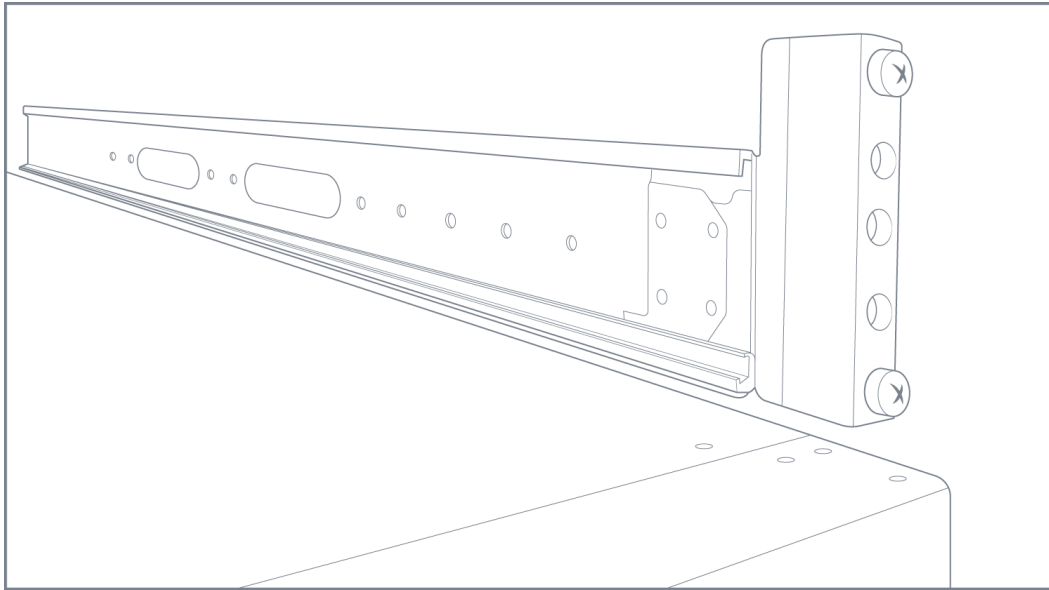

Figure 2 Slide Rail Installed in Four Post Rack
5. Locate an open 3RU rack space and install the left and right rails of the mounting slide in the rack. The assembly for a four-post rack differs from the assembly for a two-post rack. Refer to Figure 2 Slide Rail Installed in Four Post Rack.